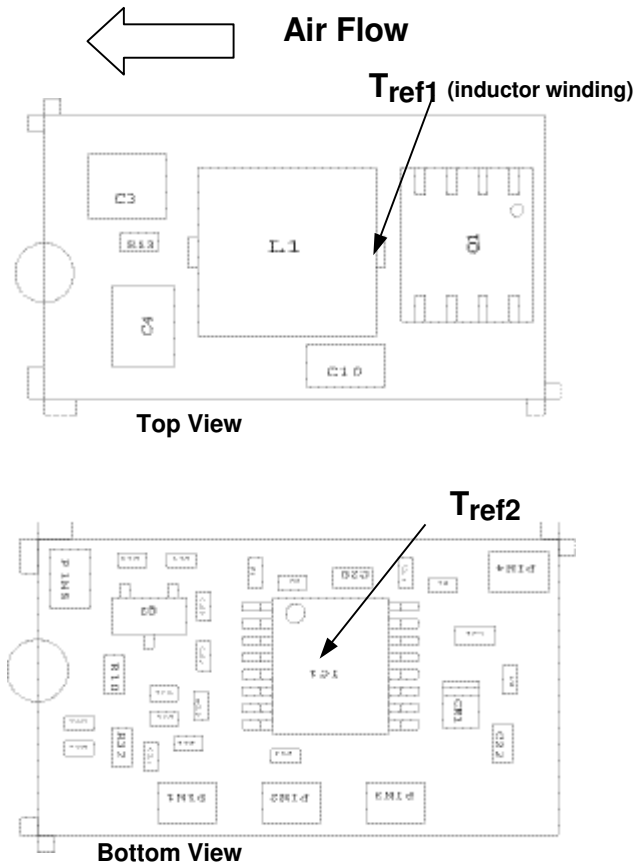
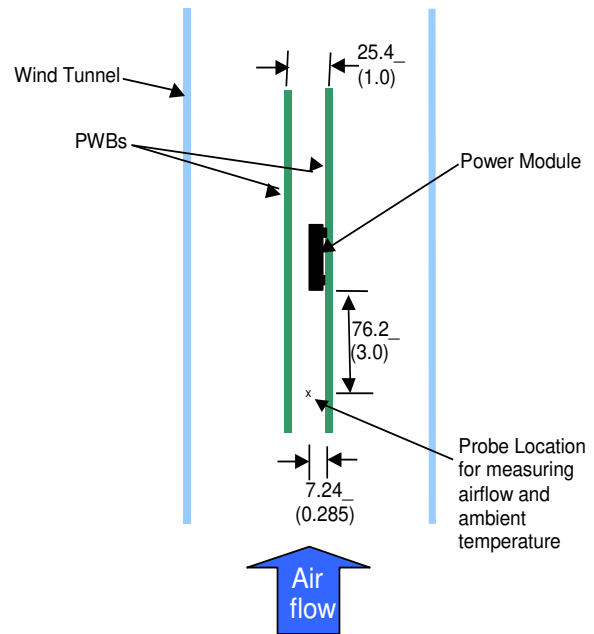

Figure 32. Tref Temperature measurement location.
Figure 33. Thermal Test Set-up.
Considerations include ambient temperature, airflow, module power dissipation, and the need for increased reliability. A reduction in the operating temperature of the module will result in an increase in reliability. The thermal data presented here is based on physical measurements taken in a wind tunnel. The test set-up is shown in Figure 33. Note that the airflow is parallel to the long axis of the module as shown in figure 32. The derating data applies to airflow in either direction of the module’s long axis.
The thermal reference point,  $T_{ref1}$  used in the specifications of thermal derating curves is shown in Figure 32. For reliable operation this temperature should not exceed 125°C.